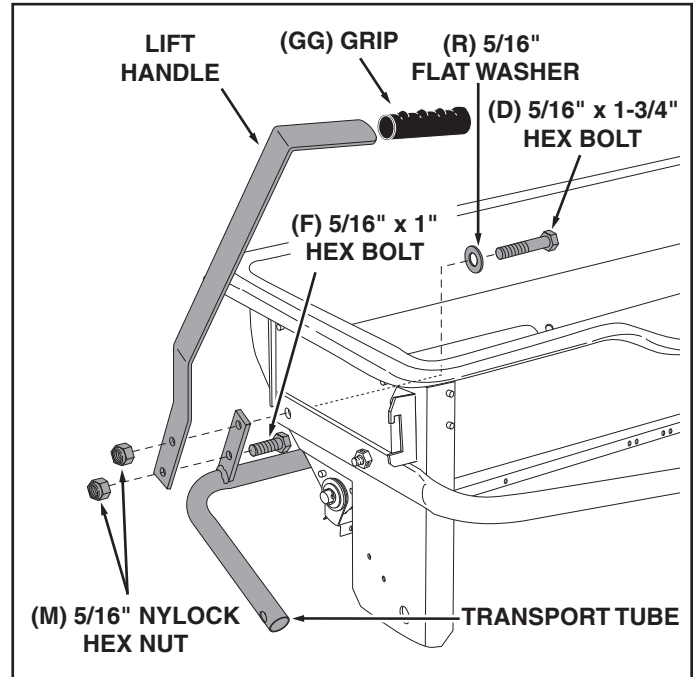

FIGURE 2
4. Assemble the grip onto the lift handle. See figure 2.
5. On the right side, insert a 5/16" x 1-3/4" hex bolt through a 5/16" flat washer and then through the rear hole in the hopper and the hitch tube. Assemble the transport tube and then the lift handle onto the bolt and secure with a 5/16" nylock hex nut. **Do not tighten yet.** See figure 2.
6. Assemble a 5/16" x 1" hex bolt and 5/16" nylock hex nut to the bottom hole in the transport tube assembly and the lift handle. **Tighten.** See figure 2.